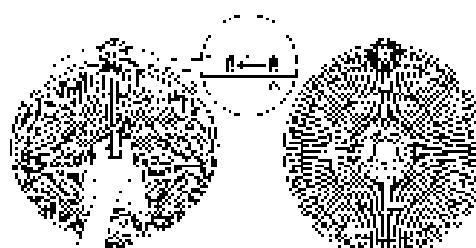

Fig. 1
3. Attach the front grille to rear grille by aligning the alignment marks on the top of the grilles, clamping them together by the nuts (a in Fig. 1) on the front grille and the nuts (b in Fig. 1) on the rear grille. (see Fig. 7), rotate the front grille clockwise to the lock position.
6. Tighten the lock screw to secure the grilles (see Fig. 1).